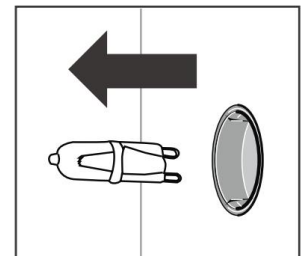

Figure 6
3. Remove the light and replace it with the same type. (Figure 6)